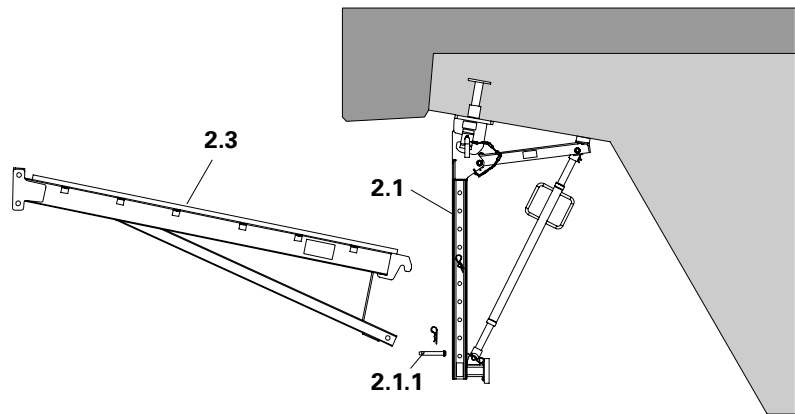

Fig. C3.03
4. Install bolts and cotter pins (2.1.1) in the Bracket Post VGK (2.1). (Fig. C3.03)